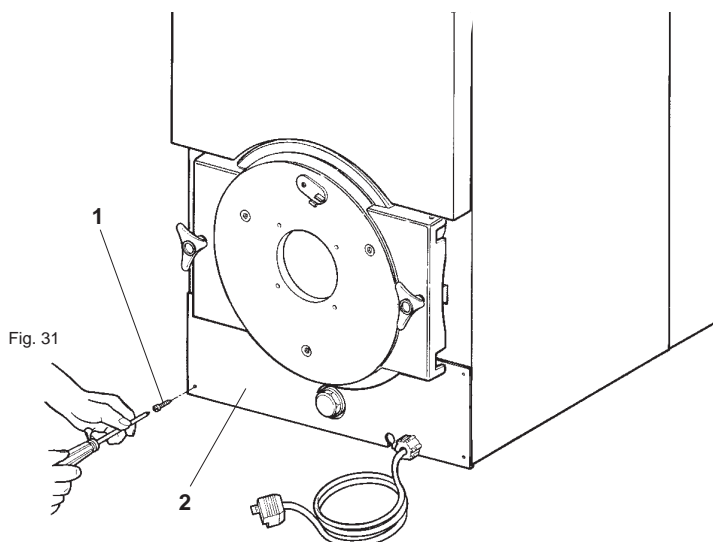

Fig. 31
5.09 (Fig. 31) Fix front lower panel 2 with the four self-threading